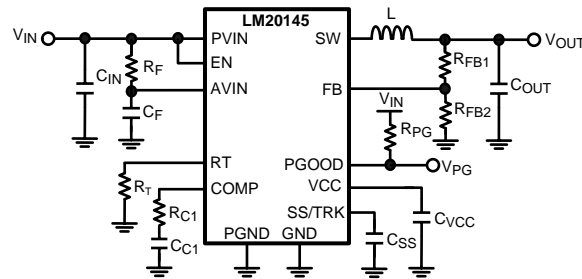

Figure 26. Typical Application Circuit
The LM20145 switching regulator features all of the functions necessary to implement an efficient low voltage buck regulator using a minimum number of external components. This easy to use regulator features two integrated switches and is capable of supplying up to 5A of continuous output current. The regulator utilizes peak current mode control with nonlinear slope compensation to optimize stability and transient response over the entire output voltage range. Peak current mode control also provides inherent line feed-forward, cycle-by-cycle current limiting and easy loop compensation. The switching frequency can be varied from 250 kHz to 750 kHz. The device can operate at high switching frequency allowing use of a small inductor while still achieving high efficiency. The precision internal voltage reference allows the output to be set as low as 0.8V. Fault protection features include: current limiting, thermal shutdown, over voltage protection, and shutdown capability. The device is available in the HTSSOP-16 package featuring an exposed pad to aid thermal dissipation. The LM20145 can be used in numerous applications to efficiently step-down from a 5V or 3.3V bus. The typical application circuit for the LM20145 is shown in Figure 26 in the design guide.
This section walks the designer through the steps necessary to select the external components to build a fully functional power supply. As with any DC-DC converter numerous trade-offs are possible to optimize the design for efficiency, size, or performance. These will be taken into account and highlighted throughout this discussion. To facilitate component selection discussions the circuit shown in Figure 26 below may be used as a reference. Unless otherwise indicated all formulas assume units of amps (A) for current, farads (F) for capacitance, henries (H) for inductance and volts (V) for voltages.
To prevent high frequency noise spikes from disturbing the sensitive analog circuitry connected to the AVIN and AGND pins, a high frequency RC filter is required between PVIN and AVIN. These components are shown in Figure 26. as C_F and R_F . The required value for R_F is 1Ω. C_F must be used. Recommended value of C_F is 1.0 μF. The filter capacitor, C_F should be placed as close to the IC as possible with a direct connection from AVIN to AGND. A good quality X5R or X7R ceramic capacitor should be used for C_F .